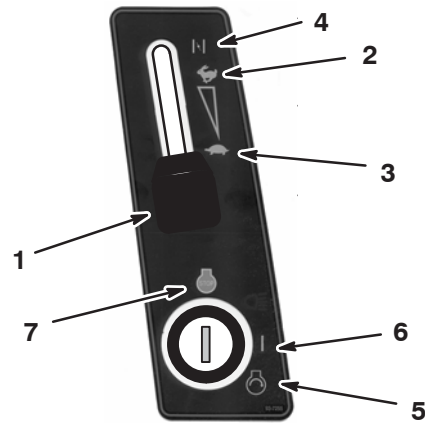

Figure 11
6. Shift the throttle control lever to the Slow position (Fig. 11).
7. Turn the ignition key clockwise and hold it in the Start position (Fig. 11). When the engine starts, release the key.
8. After the engine starts, slowly shift the throttle control lever to Fast (Fig. 11).
1. Move the throttle control lever to Slow (Fig. 11).
2. Turn the ignition key to Off (Fig. 11).